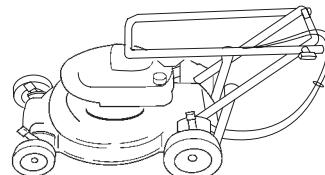

Figure 18
2. Carefully swing the upper handle section forward until it rests on the engine (Fig. 18).